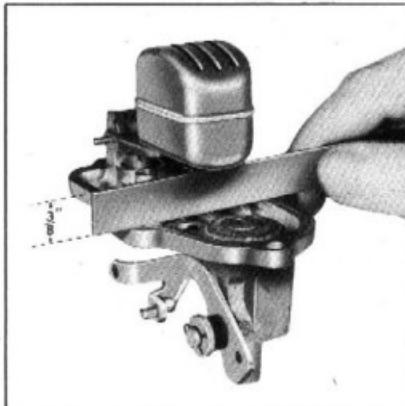

Fig. 8—Checking Float Level
underside of the bowl cover (with the gasket removed) to the top of the float. This measurement should be $\frac{3}{8}$ ". The gauge shown in Fig. 8 is a convenient tool for making this check.
- With the cover turned upside down, check the float level by measuring from the cover to the float. This distance should be $\frac{3}{8}$ in. See Fig. 8.